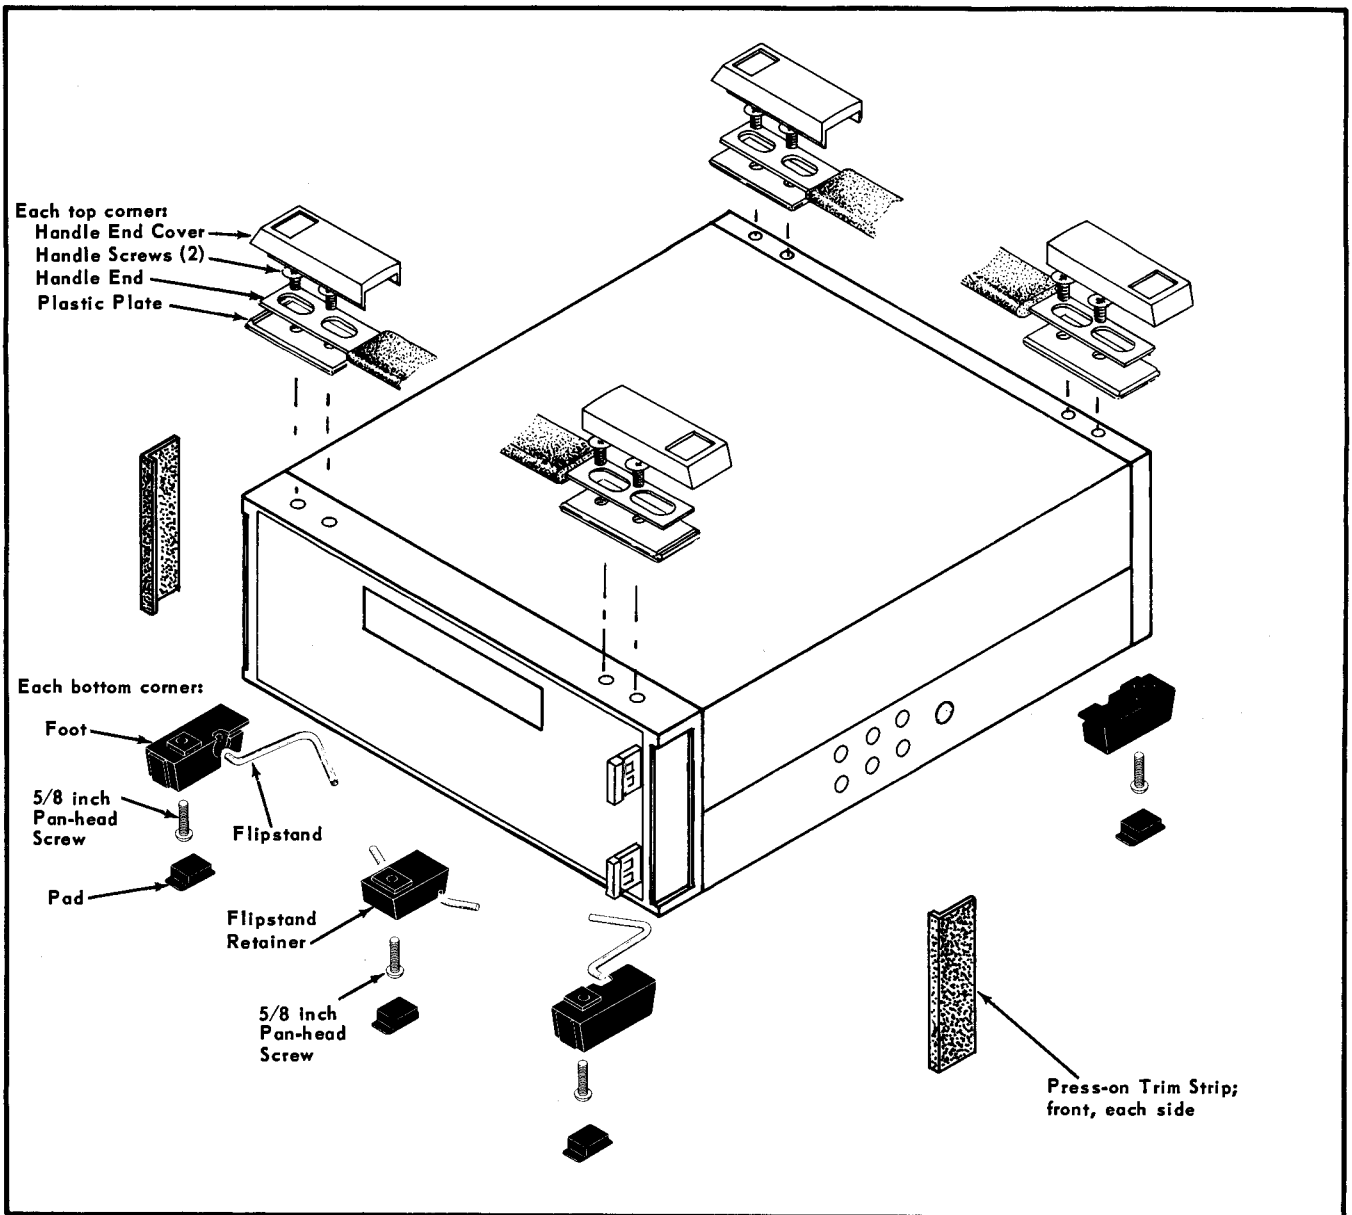

Fig. 9-1. Parts peculiar to the Type 241.
Parts peculiar to the Type 241 must be removed from the Programmer chassis before it can be converted to a Type R241. These parts are shown in Fig. 9-1 and can be removed as follows:
The following parts must be added to complete the conversion. Installation instructions follow the list. Locations are shown in Fig. 9-1.
1. Install the four feet, orienting them as shown in Fig. 9-1, then fully insert the four foot pads. Install the flipstand retainer, then spring the flipstand in place.